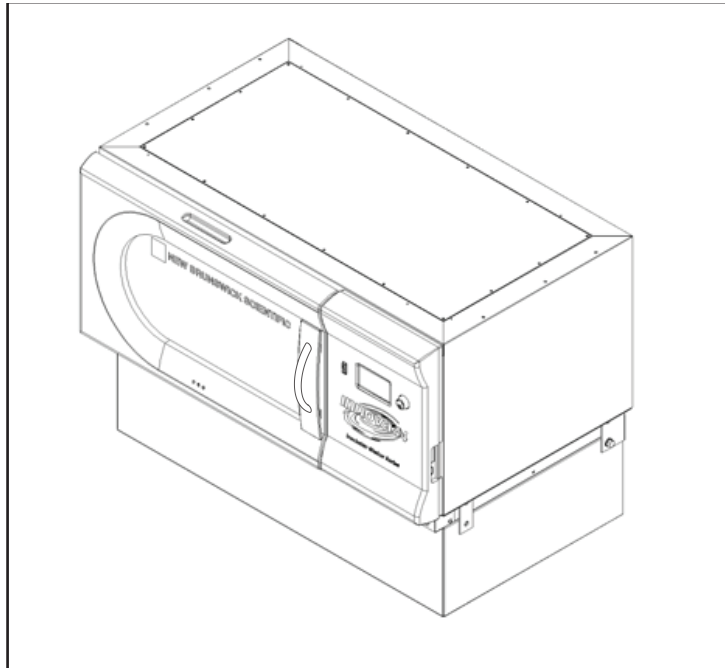

Fig. 6-4: Shaker Installed on Base
9. Tighten all screws equally. With the corner braces securely in place, the shaker mounted on its base will look as shown (see Fig. 6-4 on p. 25):